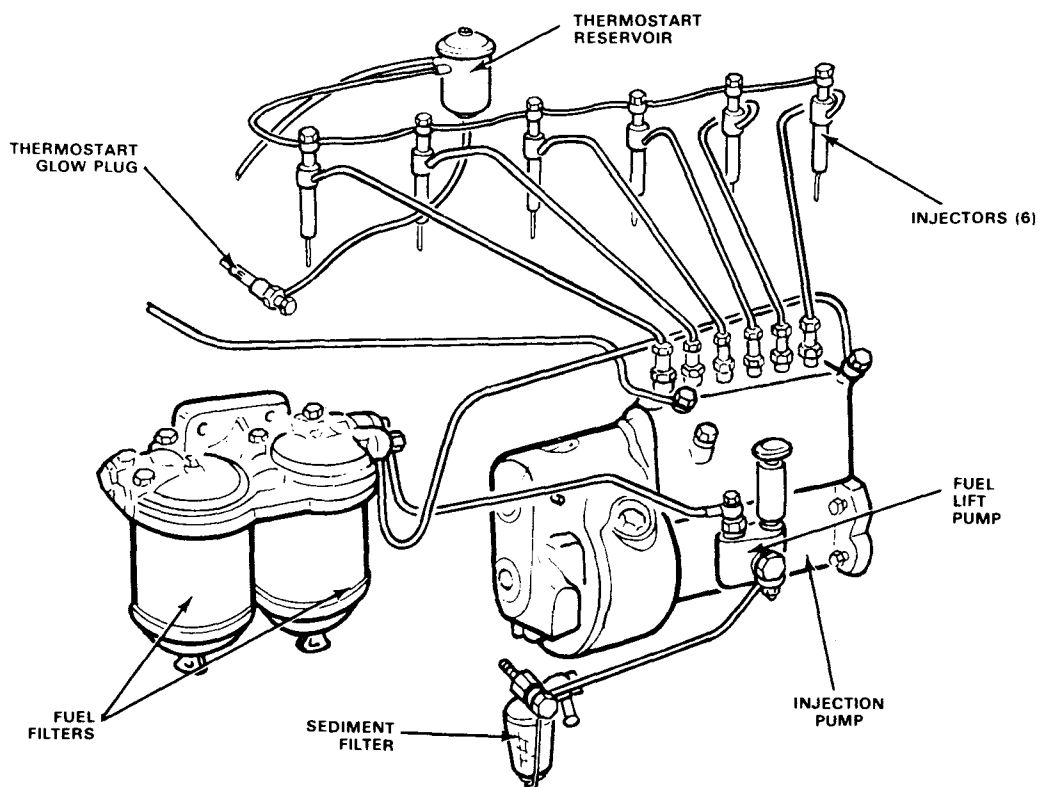

FIG. 2 SSD-655 Fuel System
injection pump, injectors (6), and a thermostart system (Fig. 2).